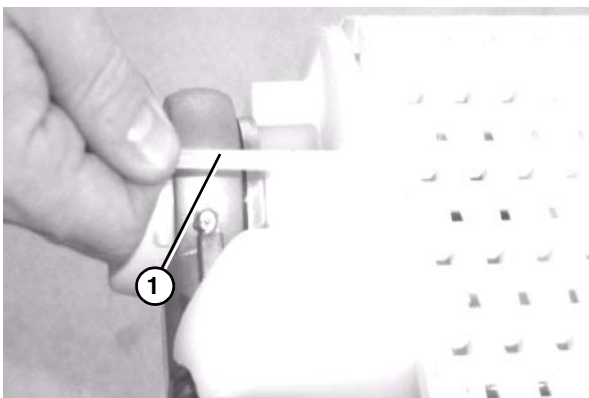

Figure 34
4. Insert the belt rod (**Figure 34, item 1**).